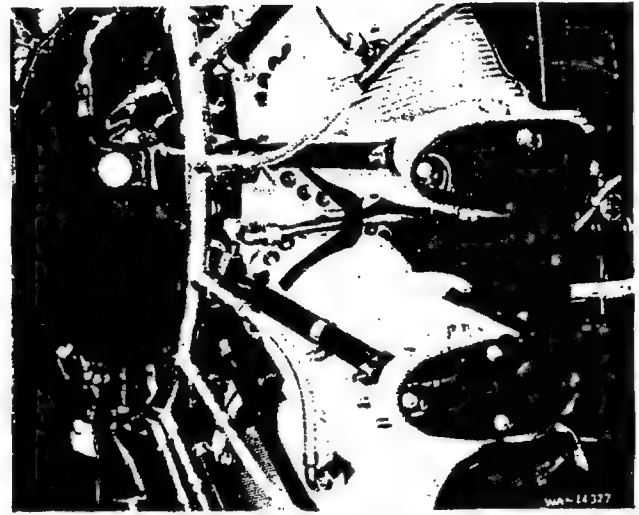

Figure 36—External Hydro-oil Line Connection and Front Tube (R-1820-97)
(1) Loosen the nut which secures the front tube of the external hydro-oil line to the crankcase front section. See figure 36 for the oil line connection to crankcase front section.
(2) Loosen the coupling attaching nut.
(3) Loosen the rear cover attaching nut to which the rear bracket has been attached. Remove the bracket.